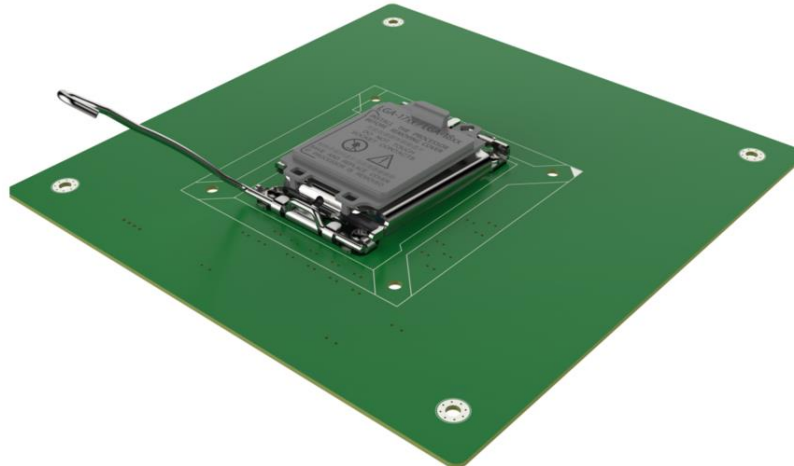

Figure 4-4: Close The Load Plate
Step 8: **Close the CPU socket.** Close the load plate, the CPU cover will be popped out naturally. See **Figure 4-4**